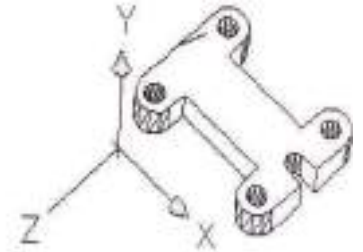

Fig.8
7. Change UCS to one that shows in Figure 8 and draw a 45° line.
LINE Specify first point: _mid {pick the mid point as shown in figure 8}